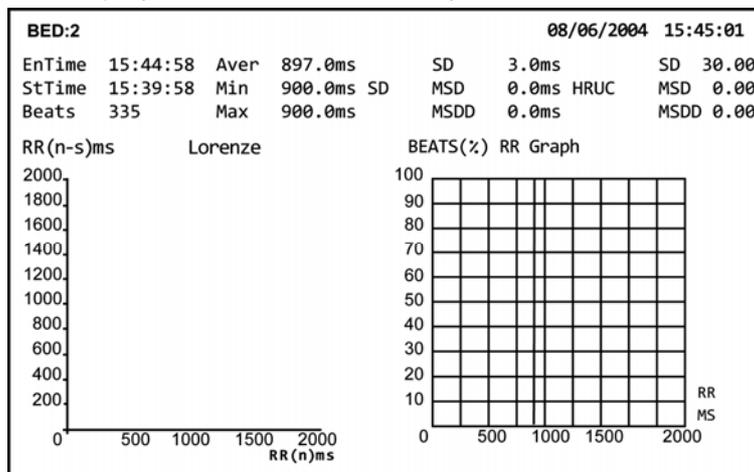

Fig. 9-10
(1) Pick "HR V" item to call up the analyzing chart of heart rate variation as Fig. 9-10: